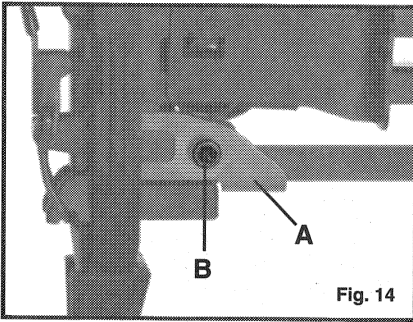

Fig. 14
A Staple Guide (A) Fig. 14, is factory installed on Model NS150. The Guide is held in place with a bolt (B) Fig. 14. The Staple Guide **must** be used whenever driving staples that are less than 1 1/8" long. The Staple Guide **must** be removed when driving staples that are 1 1/8" or more in length.
To remove the Staple Guide: remove the bolt (B) Fig. 14 and slide the Staple Guide out of the machine. Store the Staple Guide and the bolt for future use.